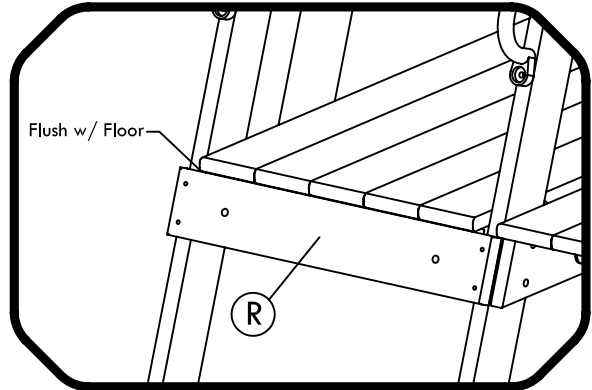

Fig. 5
- (6) Rockwall Rocks
Step 1: Attach Cargo Net Rail 'R' to Upright 'D' and the middle ladder rail with (4) 2 1/4" deck screws. The board will attach flush with the bottom of the Floor Panel 'U'. See Fig 5. (Make sure 'R' is placed on same side of fort as Cargo Net Ground Board 'K')